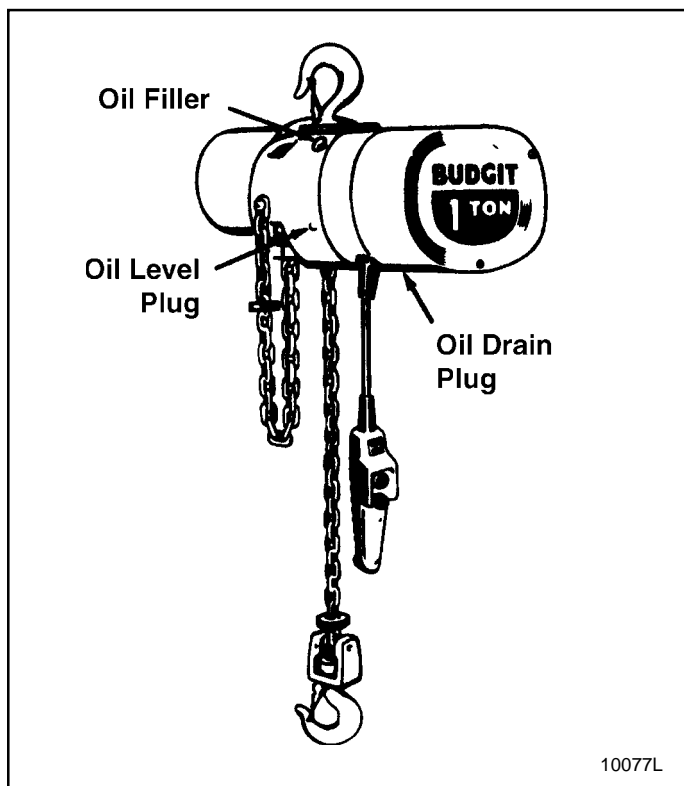

Figure 4-1. Location of Oil Filler and Plugs
4-2. CHANGE GEAR CASE OIL (Fig. 4-1).
(1) Check to see that bolts securing motor to frame are tight. Also check for any visible damage to motor, such as a cracked end bell or dented stator housing. Replace damaged parts.
(2) Check hoist frame for signs of visible damage. If frame shows evidence of fracture, the hoist should be disassembled and inspected for further signs of damage from possible overloading. Replace damaged parts. Also check condition of limit lever.
(3) Check for possible damage to electrical compartment cover. Be sure screws holding cover are tight.
e. Check Oil Level. Remove oil level plug (fig. 4-1). If oil level is not even with bottom of tapped hole, add Automatic Transmission Fluid, DEXRON Type, to bring to proper level.